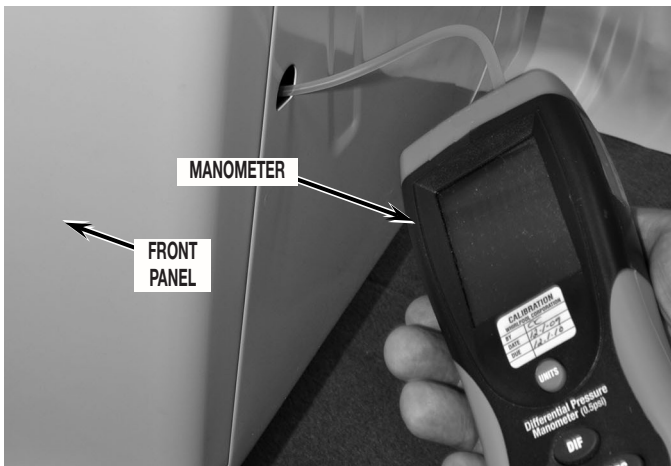

FIGURE 4
4. Turn on and zero manometer. See *Figure 4*.